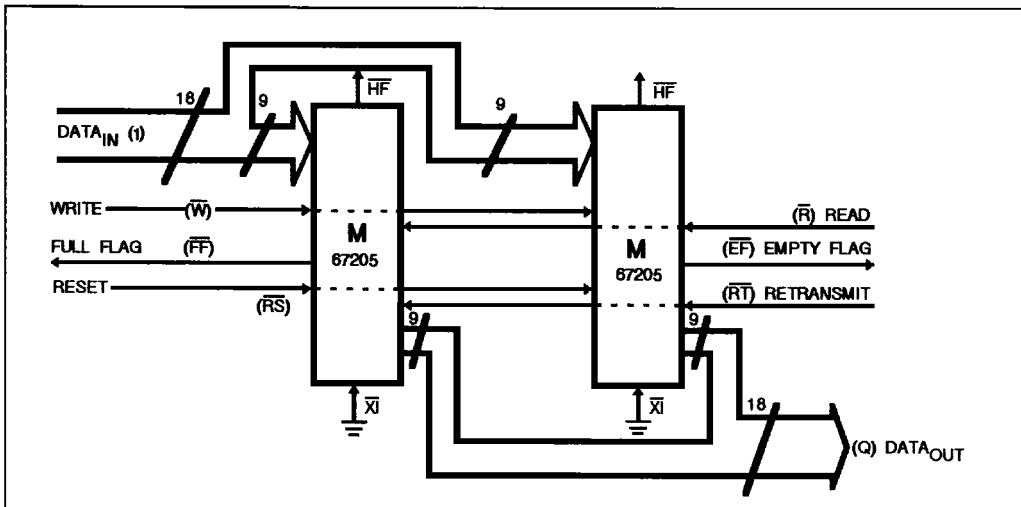

Figure 3 : Block Diagram of 8192 x 18 FIFO Memory Used In Width Expansion Mode.
device. Figure 3 demonstrates an 18-bit word width by using two L 67205. Any word width can be attained by adding additional L 67205.
- 7. For Flag detection see section on Width Expansion and Figure 3.